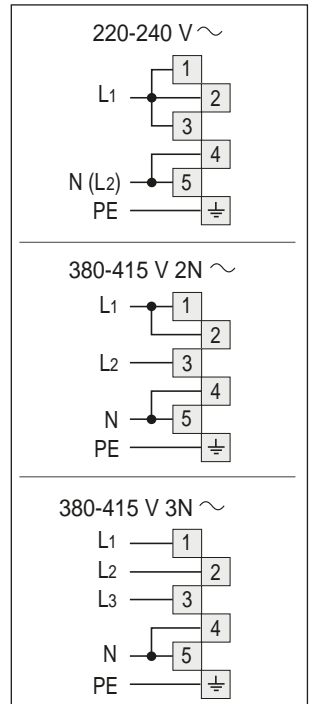

Fig. 13 Connection diagrams
- 3 Position the U bolts 'F' onto terminal board 'G' (figs. 14) according to the diagrams in fig. 13.
- 4 Connect the phase, neutral and earth wires to terminal board 'G' according to the diagrams in figs. 13 - 14.